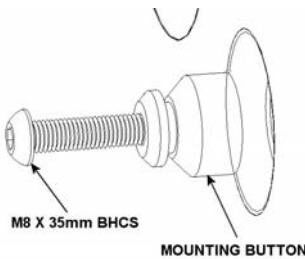

Figure 3
2. Place nylon mounting buttons on mounting holes and attach using M8-1.25 x 35 mm BHCS (See Figures 3 & 4).